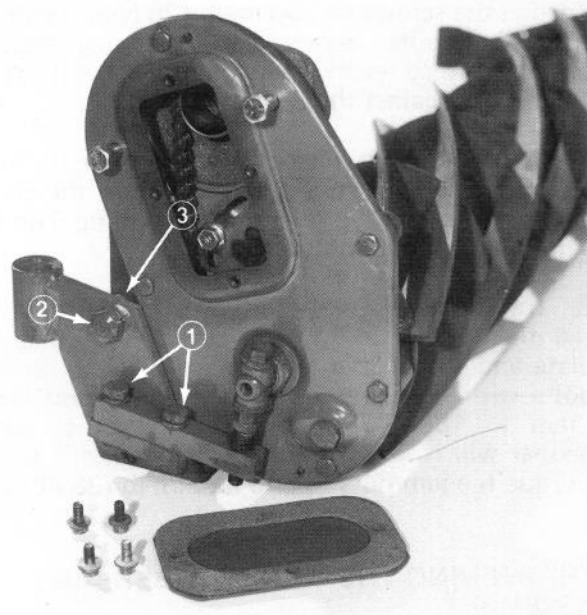

Figure 6
2. Remove four (4) capscrews securing bedbar to reel adjustment block (Fig. 6 and 7).